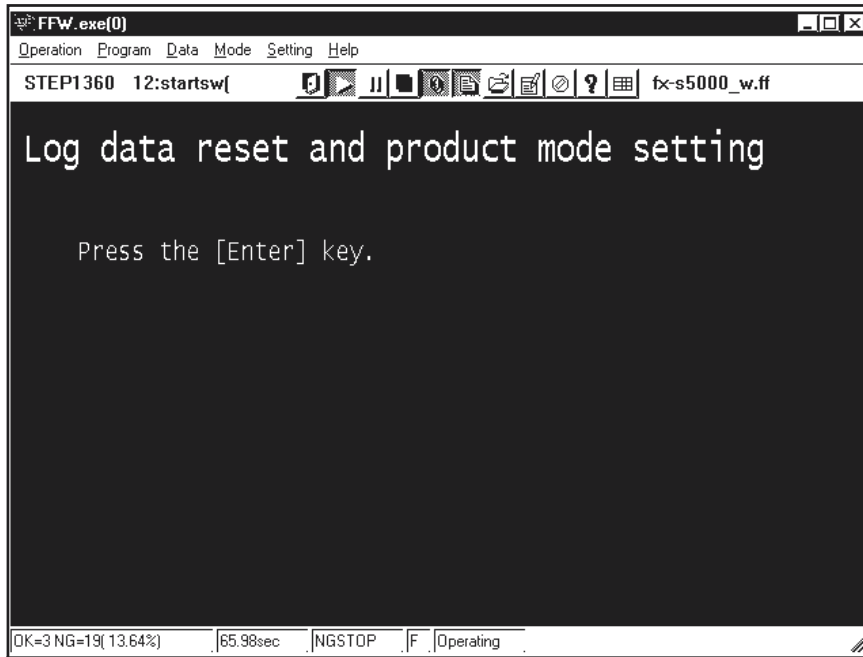

Fig.42
---> The **[Log data reset and Product Mode Setting Screen (Fig.42)]** is appears.
Press the [Enter] key while in the [Product Mode Setting Screen (Fig.42)].